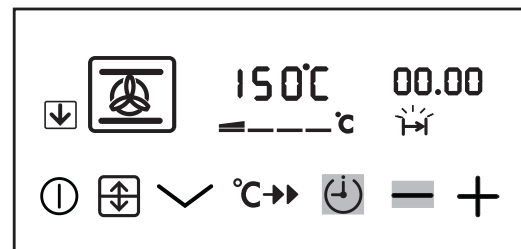

Fig.12.
- i) To cancel an automatic programme press the Time Selector button (⌚) until the 'Cook Time' indicator neon (|→|) flashes. Press the decrease control (-) until the display reads 00.00 as Fig. 12.